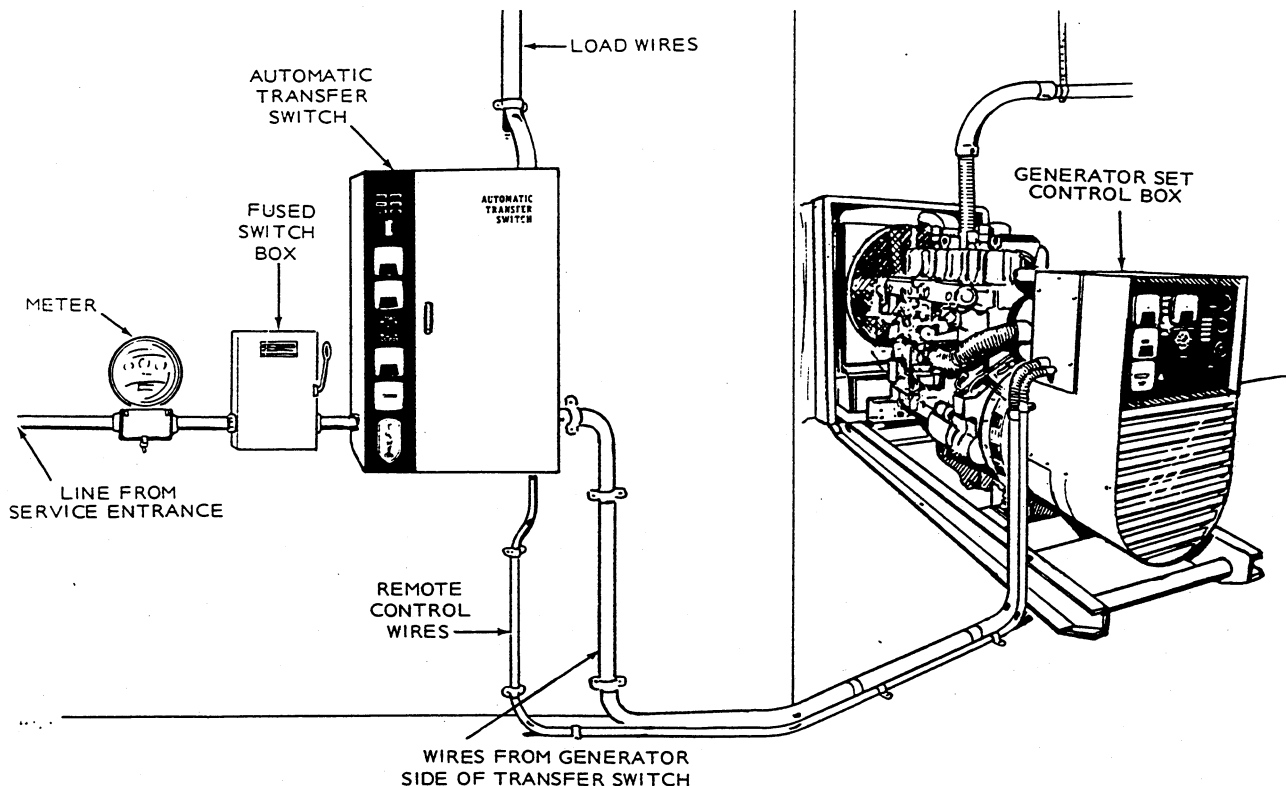

FIGURE 2. TYPICAL AUTOMATIC TRANSFER SWITCH INSTALLATION
Locating the automatic transfer switch in the existing circuit varies with application and type of entrance switch. There must be a switch and fuses in commercial power line before the automatic transfer switch. See the typical installation in Figure 2.
If the AT automatic transfer switch cabinet is an enclosed cabinet (as shown in Figure 2), use the following mounting instructions given under *Enclosed-Cabinet AT*. If the automatic transfer switch is a chassis mount type (transfer switch mounted on panel with control), use the mounting instructions given under *Open-Construction AT*.
1. Choose a mounting surface on a vibration-free wall for convenient mounting and wiring of the automatic transfer switch. See Figure 2. Avoid hot, moist or dusty locations.